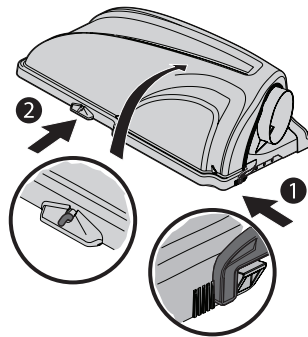

Figure 17
8. Open hood by pushing in on the rear, right-side tab with your right hand (1), and lifting the cover with your left hand in the center rear of the bagger cover (2) as shown in Figure 17.